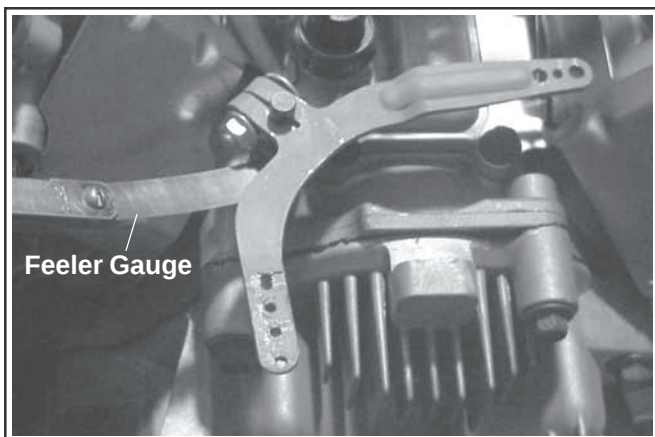

Figure 1.
1. Insert a 0.25 mm (0.010 in.) feeler gauge between the nylon washer and push-on retaining ring on the governor shaft. Install the new governor lever on the shaft, but leave the nut on the clamp screw loose. See Figure 1.